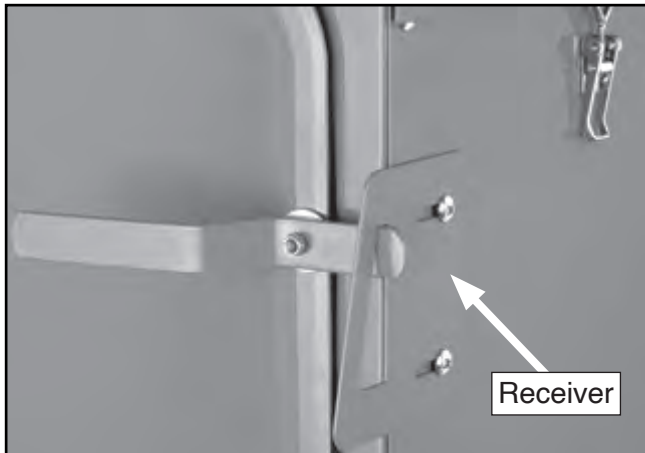

Figure 17. Door latched closed.
22. Using fasteners already in cabinet and doors, install (2) door latch receivers, and adjust receivers so doors slightly compress foam seal when closed (see **Figure 17**).